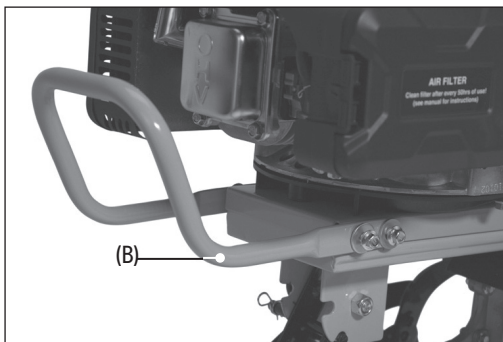

Fig. 8
4. Attach the front handle (B) (Fig. 8):